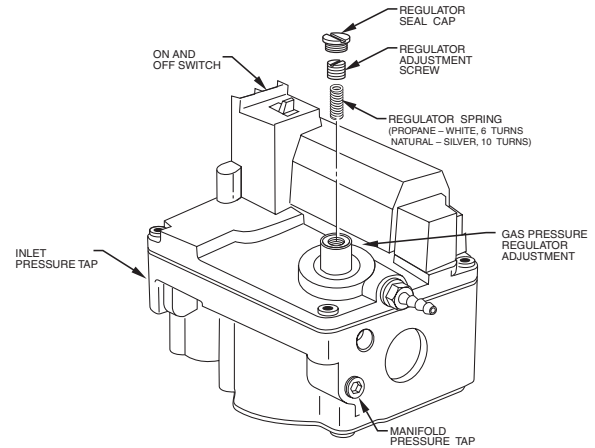
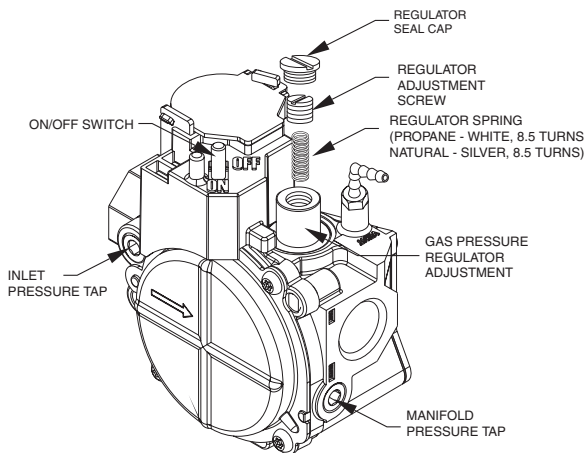

Fig. 38 - Single Stage Gas Valve, Series F
Fig. 40 - Single Stage Gas Valve, Series G / J
NOTE: There are three variations of single stage gas valves used on these furnaces. The propane regulator springs are the same for all three valves and are identical to the springs used in the 2-stage valves. Refer to Fig. 38, 39, and 40 for reference for the valve installed on your furnace.
5. Turn regulator adjustment screw clockwise (in) six turns for Fig. 38 and 39 or 8.5 turns for Fig. 40.
2. Remove 1/8-in. (3 mm) pipe plug from inlet pressure tap on gas valve. (see Fig. 38, 39, and 40). **DO NOT DISCARD PLUG!**